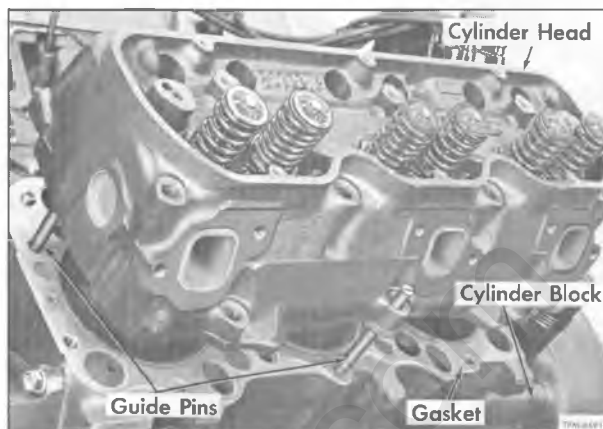

Figure 34—Installing Cylinder Head (Typical)
1. Place cylinder head gasket on top of cylinder block with word "TOP" facing upwards (fig. 34). Dowels will locate gasket.